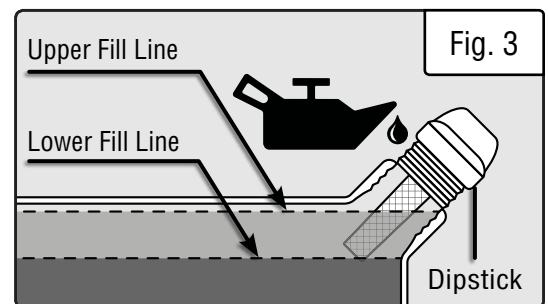

Fig. 3
3. Using an oil funnel or appropriate dispenser, slowly add oil into the oil fill, being careful not to overfill the unit. Fill the crank case to the upper fill line so you can visually see the oil coming halfway up the oil fill threads (Fig. 3).